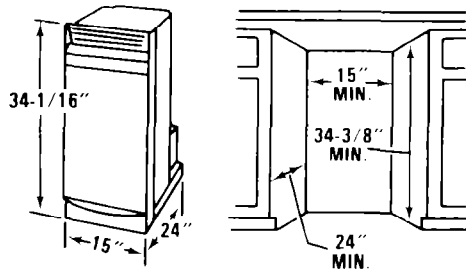

FIGURE 4
3. The compactor's overall dimensions are: Height 34-1/16" (min.), Depth 24", Width 15". Select a cabinet opening to fit. See Figure 4.